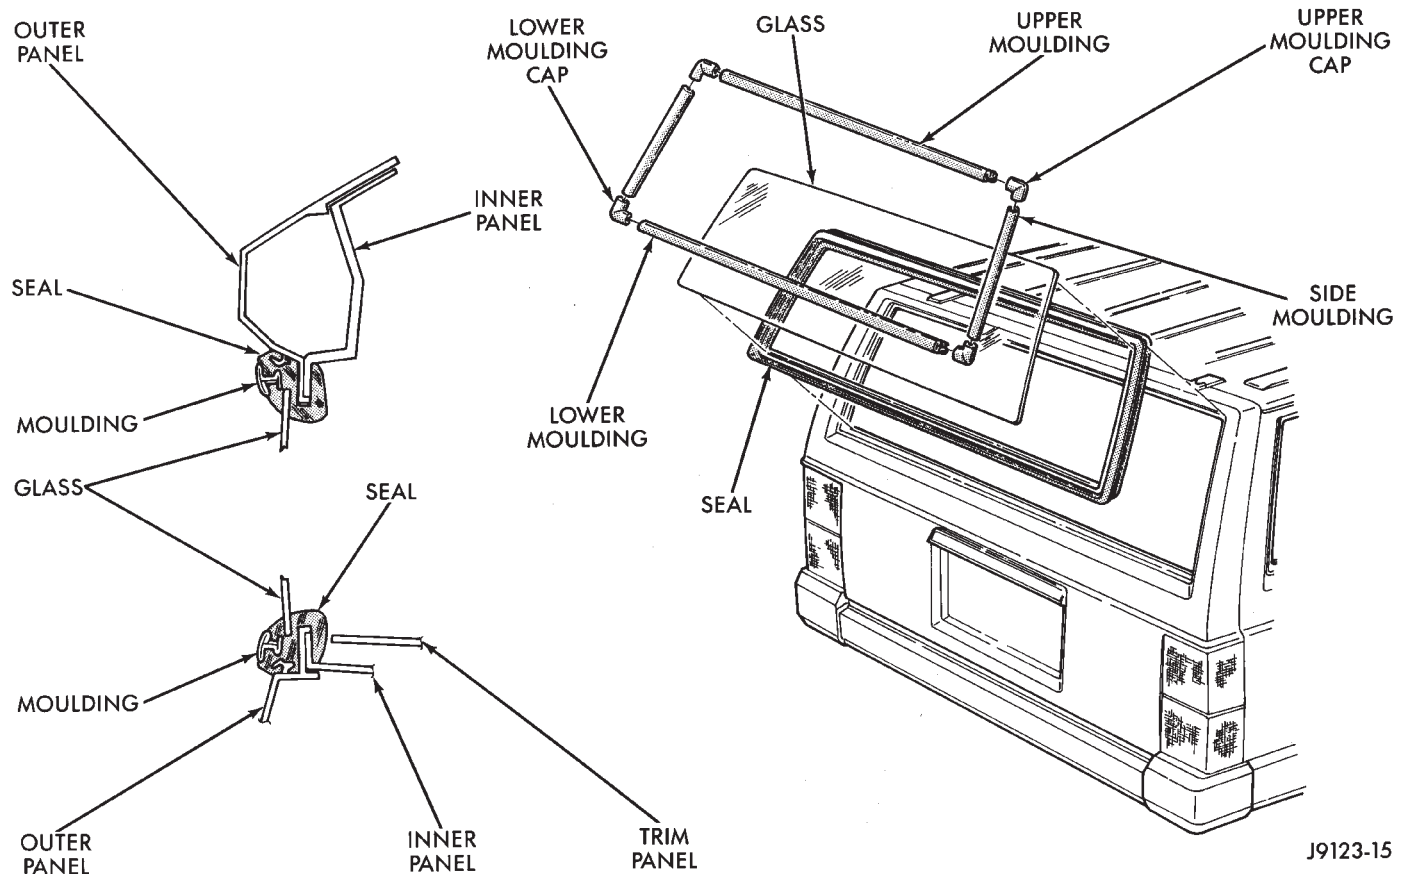
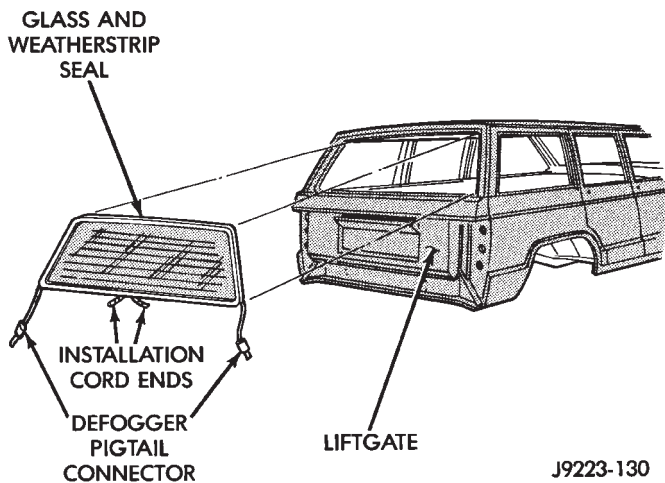
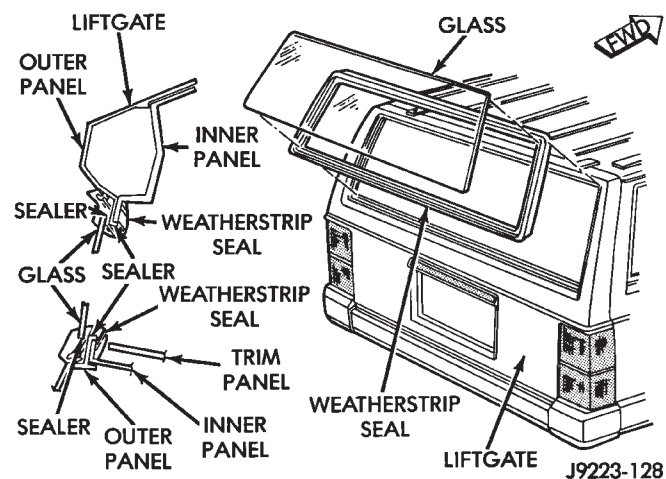

Fig. 30 Liftgate Window Glass Reveal Moulding, Glass and Seal
Fig. 32 Liftgate Window Glass Installation With Cord
Fig. 33 Liftgate Window Glass and Weatherstrip Seal
(1) If equipped, remove the liftgate window reveal moulding (Fig. 30).
(2) Remove the interior trim panels.
(3) Use a pry tool to separate the weatherstrip seal lip from the window opening flanges. Push the glass and weatherstrip seal outward from the top toward the rear of the vehicle.
- (4) Remove the glass and weatherstrip seal from the liftgate (Fig. 30).
- (5) Remove the weatherstrip seal from the window glass.
- (6) Clean the weatherstrip channels and window opening flanges.
- (1) Apply a 4-mm (1/6-in) diameter bead of sealant to liftgate glass channel in the weatherstrip seal (Fig. 30).
(3) Apply a 6-mm (1/4-in) diameter bead of sealant around the perimeter of the window opening flange in the liftgate (Fig. 30).
(4) Install the window glass and the weatherstrip seal in the window opening with the cord according to the following instructions:
- position the window glass and the weatherstrip seal in the window opening with the free ends of the cord inside the vehicle (Fig. 32); and
- pull on each end of the cord to pull the weatherstrip seal channel lip over the window opening flange (Fig. 33).
(5) Test the liftgate window for water leaks.
(6) Install the interior trim covers.
(7) If equipped, install the liftgate window reveal moulding (Fig. 30).